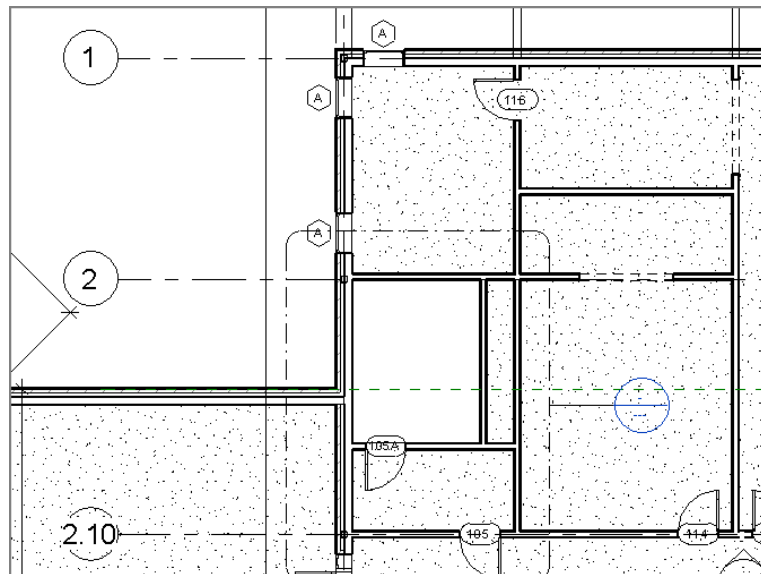

FIGURE 9.35: The lavatory area
2. Zoom in on the lavatory area, and turn off the thin lines mode, as shown in Figure 9.35.